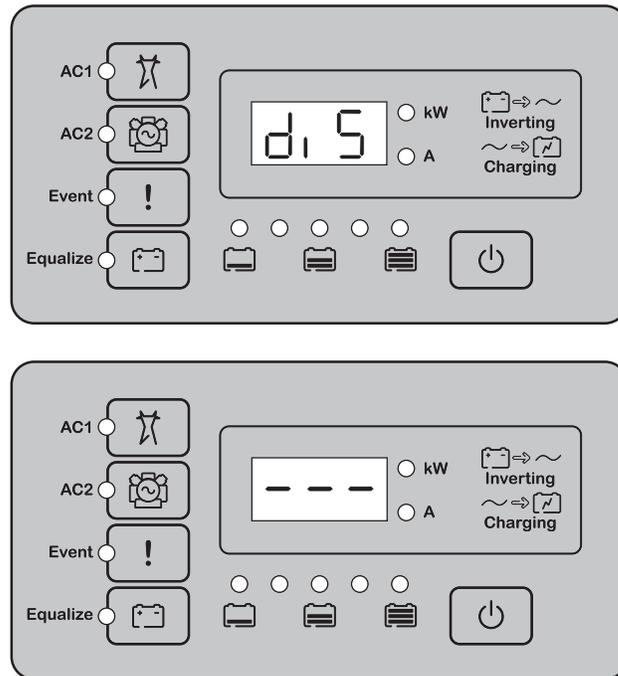

Figure 3-19 Transition to disabled mode
- ◆ On the inverter information panel, simultaneously press the STARTUP/ SHUTDOWN button and the Equalize button. The Conext XW+ is now disabled, and **d15** (disabled) is briefly displayed on the inverter information panel, followed by "---" (as shown in Figure 3-19).